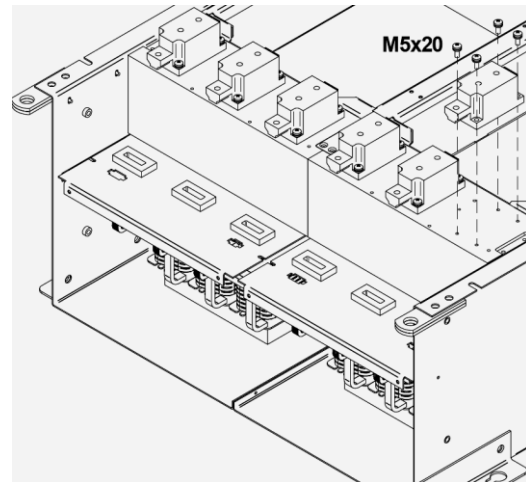

Figure 5.18. Disassembly of the SCR
Follow *figure 5.18* while reading these instructions:
- 2) Insert the SCR in the heat exchanger (*figure 5.18*)